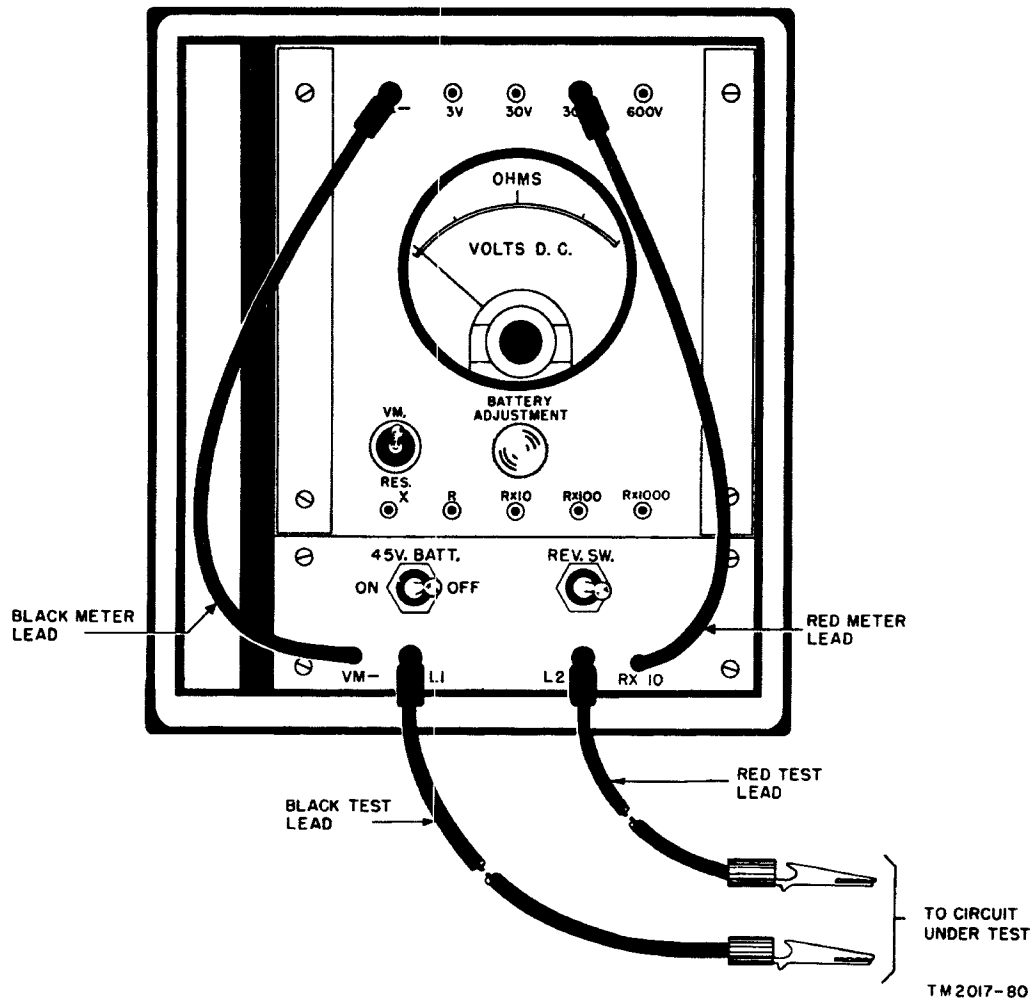

Figure 12. Test Set TS-26(\*)/TSM, arranged for measurements between 0 and 300 volts dc.
- (b) 300V jack for measurements between 0 and 300 volts (fig. 12).
- (3) If the 0- to 300-volt range is being used (fig. 12), read the VOLTS D. C. scale directly. In this case, the dc voltage is 100 volts.